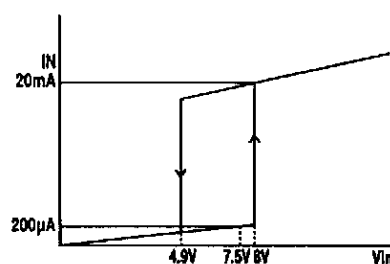

Fig .2  $V_{IN}$  Terminal Voltage Circuit Current  $V_{IN}$
If Convergence magnet assembly and rubber wedges need mechanical positioning follow figure 2.
- 6) Rotate and spread the tabs of the purity magnet (See figure 2) around the neck of the picture tube until the green belt is in the center of the screen. At the same time, center the raster vertically.
- 2) Place a wedge as shown in figure 2 temporarily. (Do not remove cover paper on adhesive part of the wedge.)
A Start-up circuit is to start and stop a operation of a control IC by detecting a voltage appearing at a  $V_{IN}$  terminal(pin-9).At start up of a power supply, when a voltage at the  $V_{IN}$  terminal reaches to 8V by charging up C809 by the function of a start-up resistor,  $R_s$ , a control circuit starts operating by the function of the start-up circuit. As shown in Fig. 2, since a circuit current is suppressed 200  $\mu A$  maximum (at  $V_{IN} = 7.5V$ ) until the control circuit starts its operation.